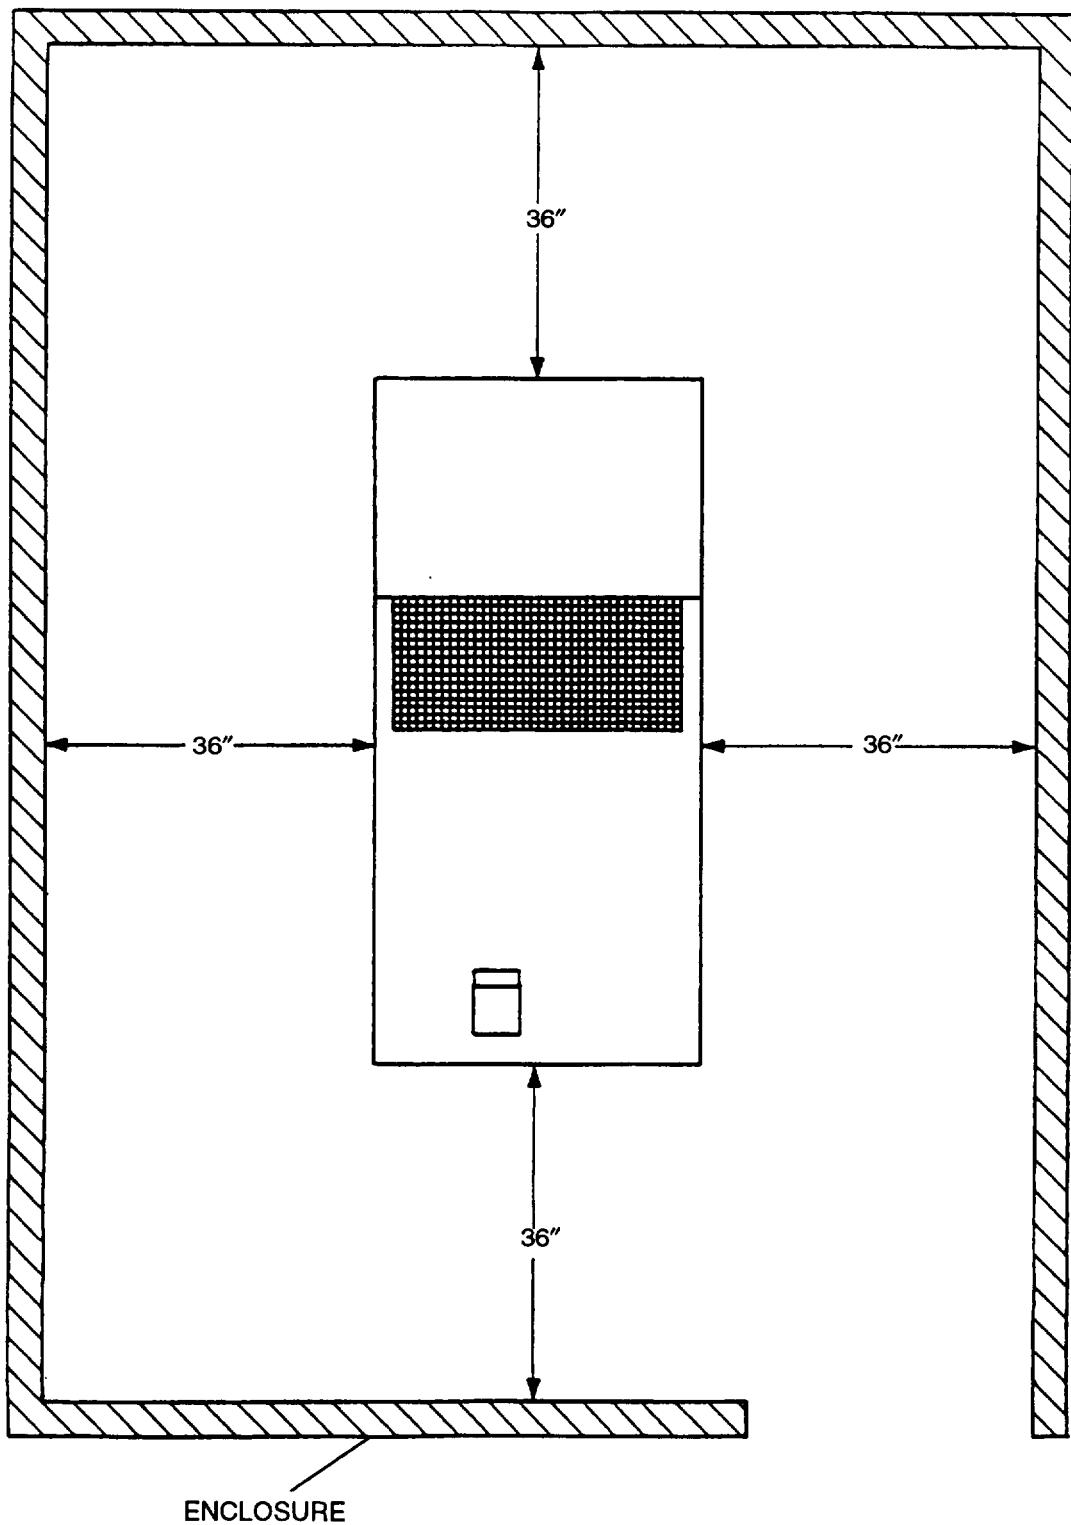

FIGURE 2-2. Minimum Enclosure Clearance Measurements
- b. Allow space on all sides for service and maintenance. Refer to FIGURE 2-2 for minimum clearance measurements.
h. Allow space on all sides for service and maintenance. Refer to FIGURE 2-2 for minimum clearance measurements.